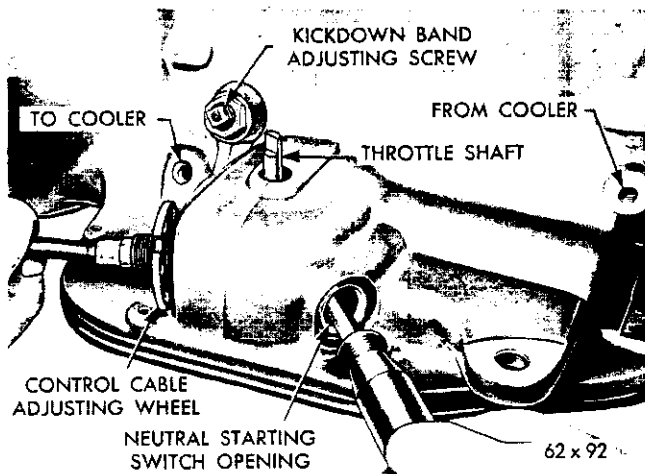

Fig. 22—Removing Gearshift Control Cable
(4) Remove push button control cable to transmission adjusting wheel lock screw.
(5) With a screwdriver inserted through the neutral starter switch opening, gently push against the upper projecting portion of the cable adapter lock-spring and pull outward on cable to remove cable assembly from case (Fig. 22).
(6) To install the cable, have an assistant engage the (R) button and hold it firmly engaged until the cable attachment operation is completed.
(7) Back the adjustment wheel off on the cable housing (counter-clockwise) until two or three threads are showing on the guide behind the wheel.
(8) Lubricate the cable housing with transmission fluid, insert cable in transmission case, push inward on cable making sure lock-spring engages cable. Adjust control cable as outlined in "Maintenance, Adjustments and Tests".
(9) Refill the transmission with Automatic Transmission Fluid (Type "A" Suffix "A") to proper level.
(1) Raise the car on a hoist. Have an assistant hold the R (reverse) button firmly depressed.
(2) Remove the push button control cable adjustment wheel lock screw at the left side of transmission (Fig. 22).
(3) Back the adjustment wheel off on the cable guide (turn counter-clockwise) until two or three threads are showing on the guide behind the wheel.
The kickdown band adjusting screw is located on the left side of the transmission case near the throttle lever shaft (Fig. 22).